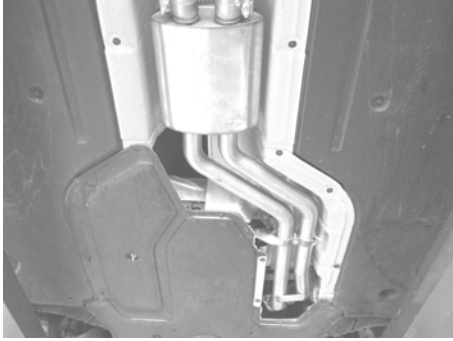

**Figure 5**
5. Using a muffler stand or an additional person to hold the exhaust system up in position, remove the hangers from the rubber brackets and remove the exhaust system shown in figure 5 from the vehicle.